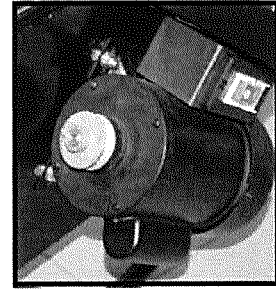

Fig.16: Align motor to mounting slots on left frame and bolt in place.
3. Bolt motor onto guides on left side frame. (Fig.16)